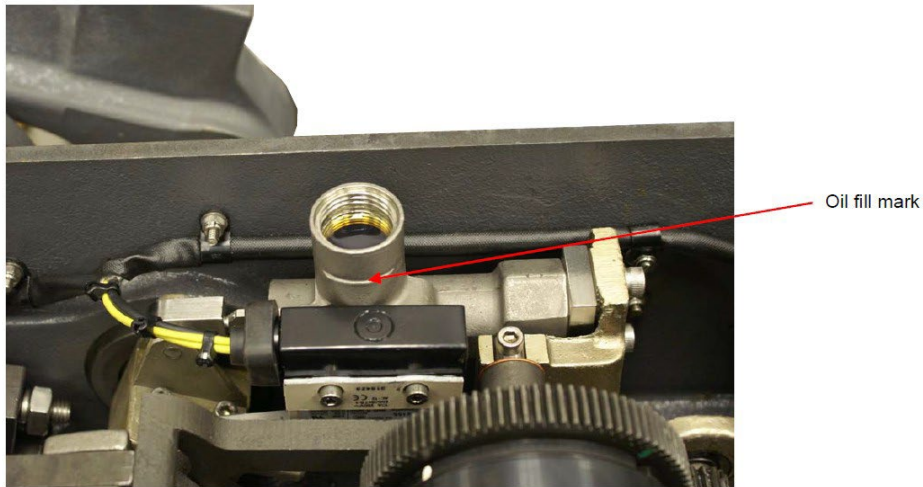

Figure 1 – Dashpot Oil Fill Mark
- 1.10 At the Dashpot, unscrew the cover and check the oil level. If necessary top up to the fill mark using 20W-50 engine oil (see Figure 1).